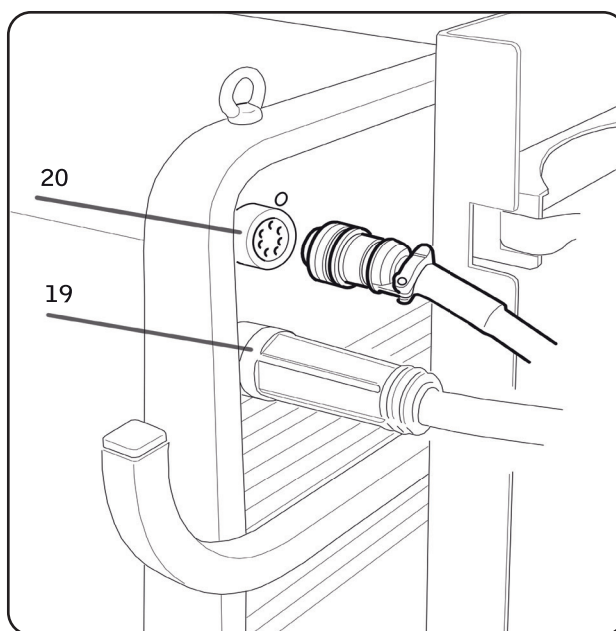

Fig. 4
- ◆ Connect all wiring on the back of the power source (see fig. 4).